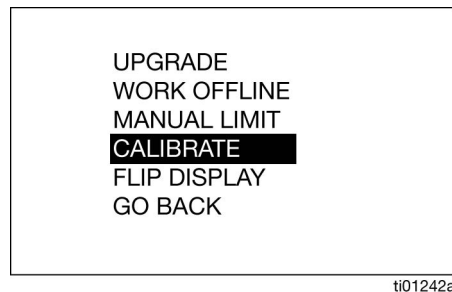

FIG. 15
- Select the CALIBRATE option to display the calibration K-Factor screen (FIG. 15 and FIG. 16).